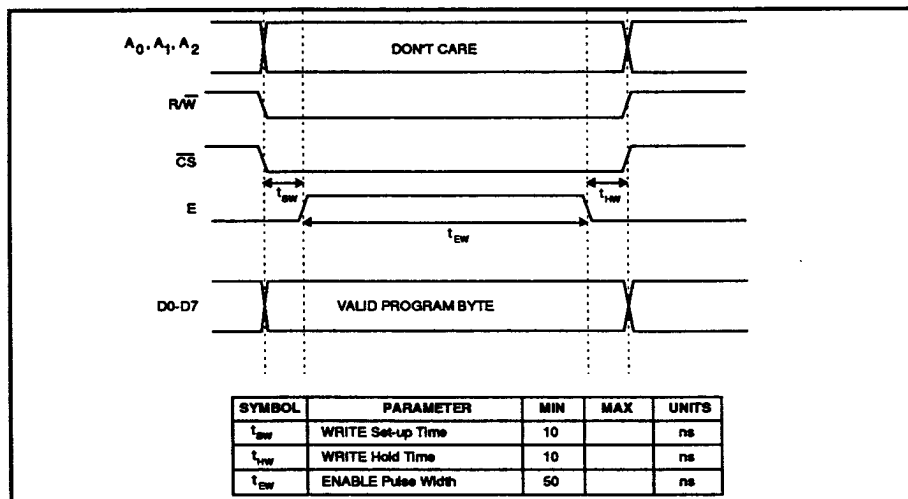

Figure 6. WRITE Timing
Figure 6 shows the timing relationships among the control lines during a WRITE operation. To write the programming data into the 5024, the R/\overline{W} line is in the logical "0" (low) state. The A_2 , A_1 and A_0 control lines are DON'T CARE terms during write, and are ignored. Finally the chip select line (\overline{CS}) is brought to a logical "0" (low); as in the read operation, \overline{CS} must be pre-sent and static for at least 10ns before the enable (E) line is activated.